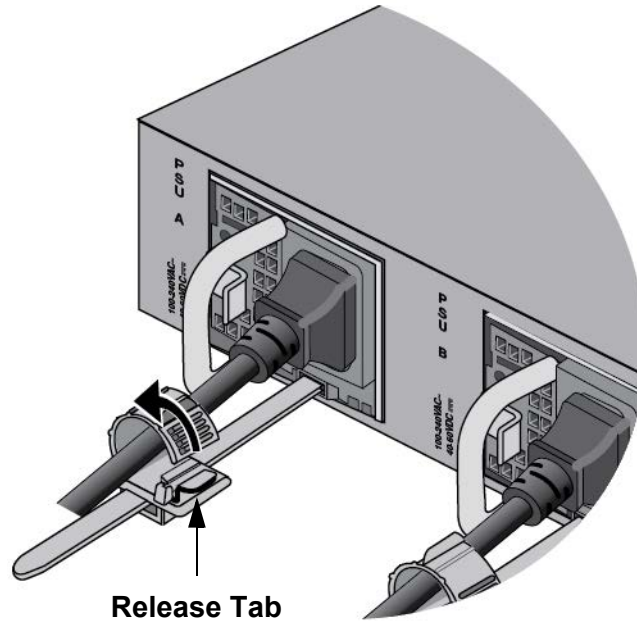

Figure 147. Opening the Restraining Strap on the Power Supply
2. Open the restraining strap on the power cord by pressing down on the release tab and pulling out the strap. Refer to Figure 147 on page 252.